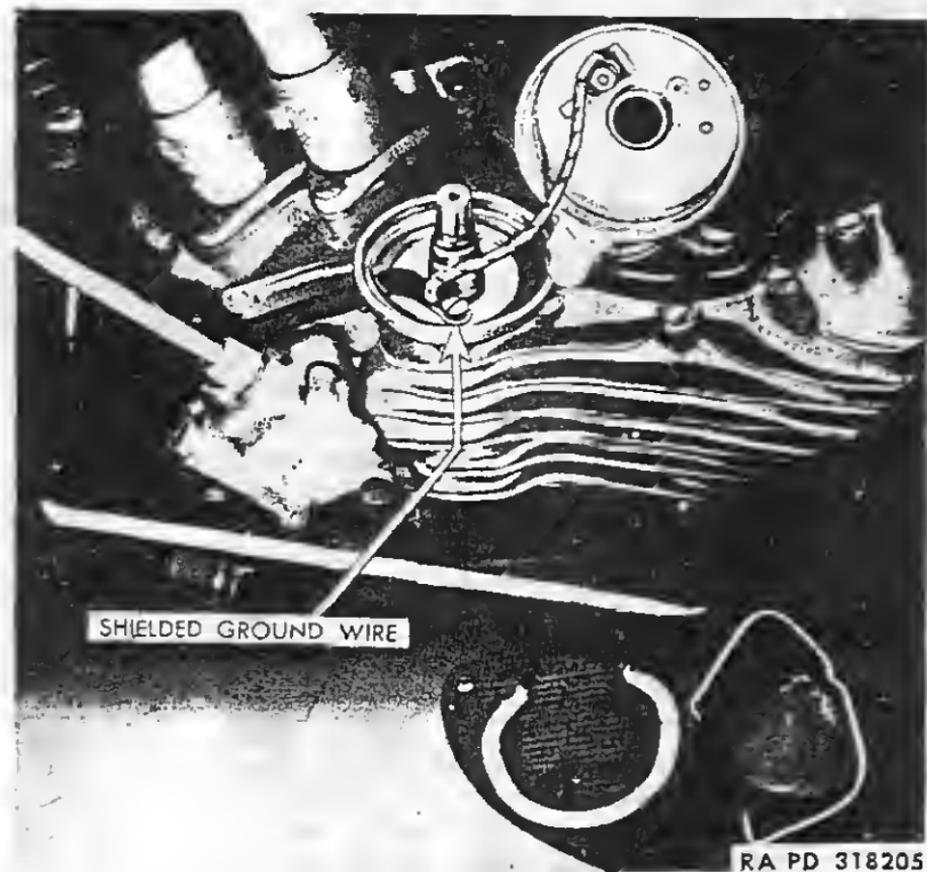
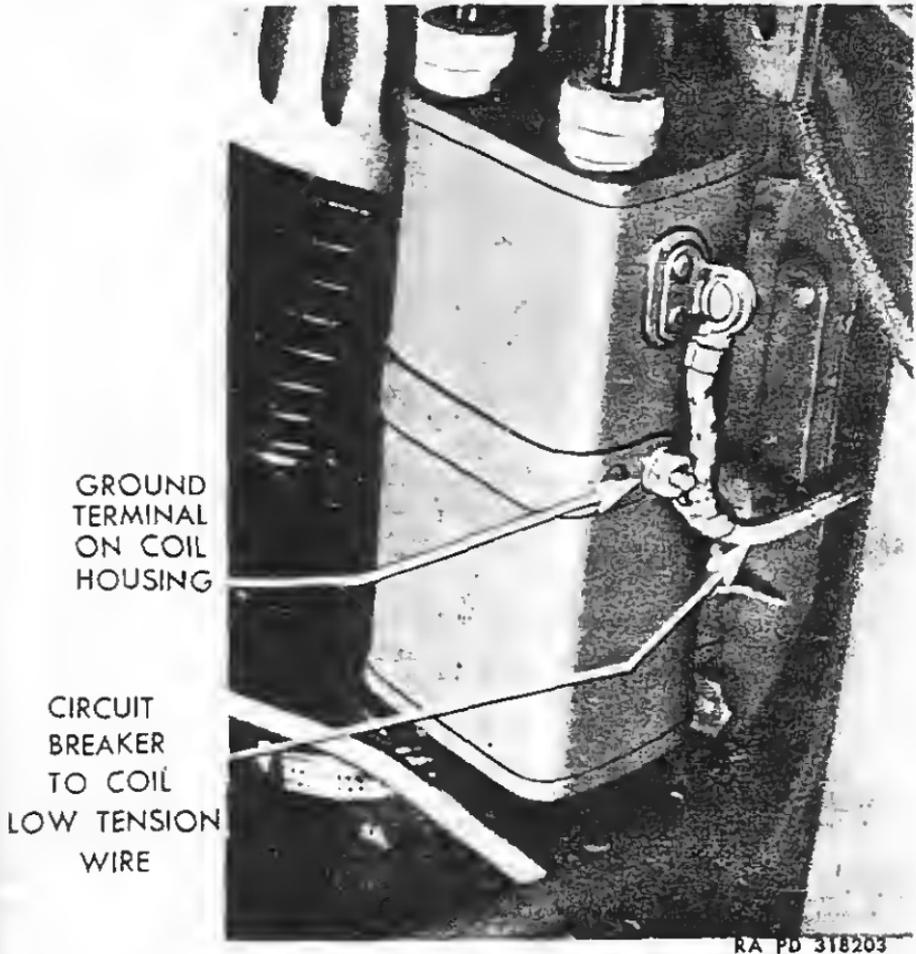

Figure 52—Shielding of Coil to Timer Wire Grounded on Base
Figure 53—Shielded Coil to Timer Wire Correctly Connected at Coil
(8) Fully advance spark lever (push inward toward engine) and observe how closely mark on breaker cam lines up with breaker lever fiber. If mark does not line up, lift timer base and turn shaft gear so its engagement with its driving gear is changed one tooth. Check again according to breaker cam mark and breaker lever fiber. Repeat this procedure until gear engagement is obtained which closely aligns cam mark and breaker lever fiber.
(9) See that timer base is turned so that timer to coil wire is toward rear of engine.
(10) Install timer base screws and lock washers. Make sure that timer to coil wire shielding is grounded under head of screw farthest away from engine (fig. 52). Securely tighten screws.
(11) Install timer head on base and secure with ground spring and cover retainer. Be sure ground spring is in its proper place so that when cover retainer ends are fitted through holes in the timer head, they will also fit into spring locating notches. It will be necessary to press ground spring upward under timer base to engage retainer ends in the spring notches. *NOTE: If cover retainer ends do not engage ground spring notches, spring will have no tension and timer head will be loose on its base.* Circuit breaker points and condenser are electrically grounded through timer base, and ground spring holds the head and base in close contact, thus assuring a good ground.
(12) Connect spark control wire and timer lever and adjust (par. 88).
(13) Engine is now timed according to original factory setting, providing mark on side of timer head and hole in head adjusting band are still in alignment, and circuit breaker point gap is 0.022 inch. Even though all ignition timing marks are in perfect alignment, as outlined in the foregoing instructions, it is advisable to accurately check ignition timing (step d following).
(8) With ignition timing correct, front cylinder piston is $\frac{9}{32}$ inch before top dead center, on compression stroke, when circuit breaker points just start to open. At this point spark occurs, igniting front cylinder fuel charge.
(9) Install flywheel inspection hole plug in left crankcase.
87. COIL TO TIMER WIRE (figs. 52 and 53).
(1) Disconnect battery negative ground wire at frame connection.
(2) Remove the two bolts which secure upper end of air cleaner bracket to frame tube. Swing air cleaner and bracket outward and forward to gain access to spark coil rear terminal.
(3) Disconnect coil to timer wire terminal from coil rear connection. Disconnect wire shielding from coil rear ground connection.
(4) Refer to paragraph 86 b (1) to (4) for timer head removal.
(5) Remove timer base mounting screw which secures wire shielding (fig. 52).
(6) Note position of coil to timer wire inside of timer head; then remove nut washer connecting wire to insulated contact stud.
(7) Work old wire and loom out of timer head hole and free from vehicle.
(8) On earlier models, the coil to timer wire was soldered to end of insulated stud. Removal of stud is necessary to remove this wire, or replace it with a shielded wire. Note location of stud insulations on inside and outside of timer head, for correct installation w/ reassembling.
(1) Pass end of wire, shield terminal, and loom up through hole in timer base.
(2) Ground the wire shield terminal under head of timer base mounting screw (fig. 52).
(3) Connect wire end terminal to insulated stud so that wire leads away from stud in direction shown (fig. 52).
(4) Pass coil to timer wire up alongside and to rear of frame saddle post tube to reach rear of spark coil.
(5) Ground the wire shield terminal to coil rear ground connection (fig. 53).
(6) Connect wire terminal to coil rear primary connection (fig. 53).
(5) Swing air cleaner and bracket assembly outward to gain access to coil rear terminals.
(6) Disconnect coil to timer wire from coil rear terminal screw. Disconnect wire shielding from coil rear ground terminal (fig. 53).